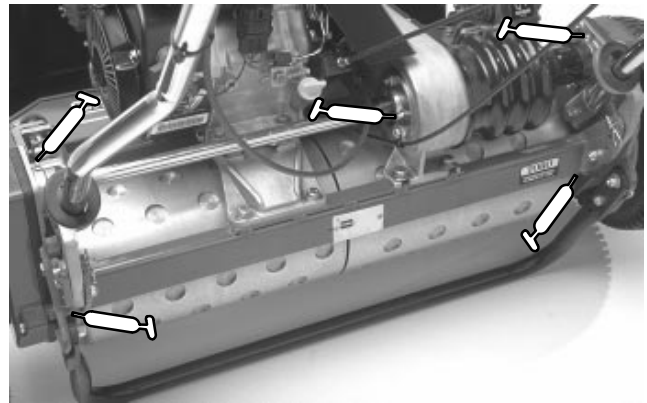
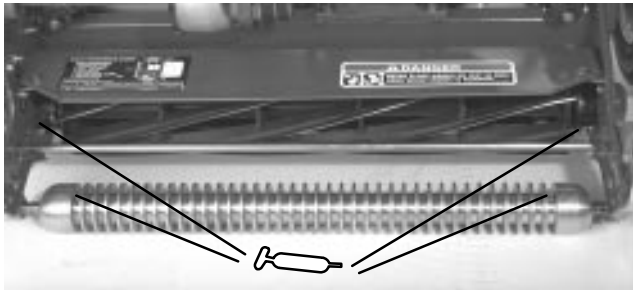

Figure 23
Figure 22
2. The grease fitting locations are: (2) on Front Roller (Fig. 22), (2) on reel bearings (Fig. 22), (2) on Drum Axles (Fig. 23), (3) on Differential (Fig. 23), (2) on Reel Countershaft Bearings (Fig. 24) and (2) on Belt Idler Pivots (Fig. 25).